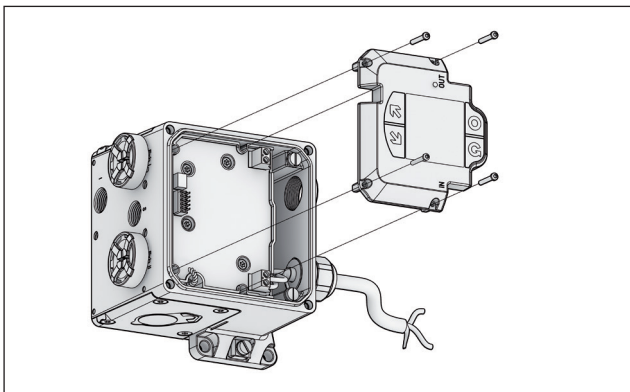
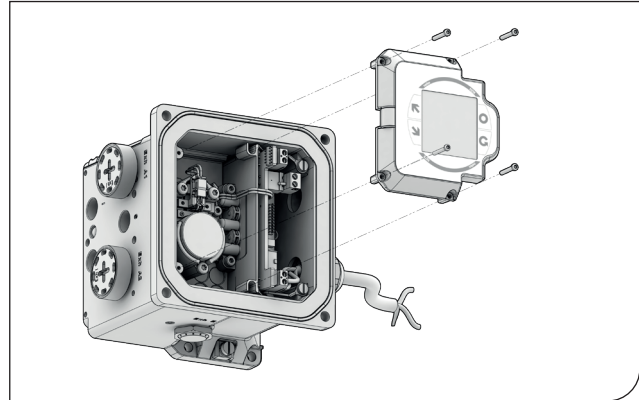

Fig. 99. NDX1510\_
Fig. 100. NDX\_511\_ and NDX\_512\_
- Loosen the display screws and remove display. (Fig 99, Fig 100)